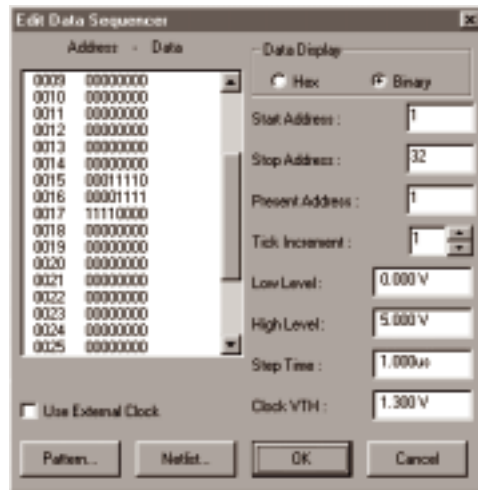

Figure 5.6. Use the Edit Data Sequencer dialog box to edit stimulus for your circuits.
You can use the Data Sequencer [Instruments/Analog] (G) device in both digital and analog simulation modes. Also known as a Data or Word Generator, it allows you to specify up to 32767 8-bit words which can be output in a defined sequence. Since there is no limit to the number of Data Sequencers that you can use in a circuit, you could place several in parallel to create a data stream of any width. Double-click the **Data Sequencer** with the Arrow Tool to display the dialog box pictured in Figure 5.6.